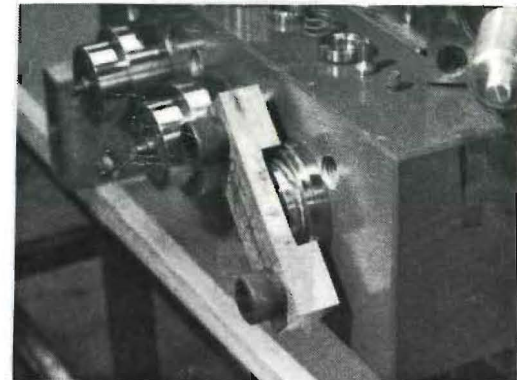

FIGURE 6-6
- A. BOLT THE SPECIAL TOOL #BT3617 (REFER TO SECTION 7) AGAINST THE FACE OF THE OUTER SLEEVE WITH THE TWO SHORT CAP SCREWS, AS SHOWN IN FIGURE 6-6.